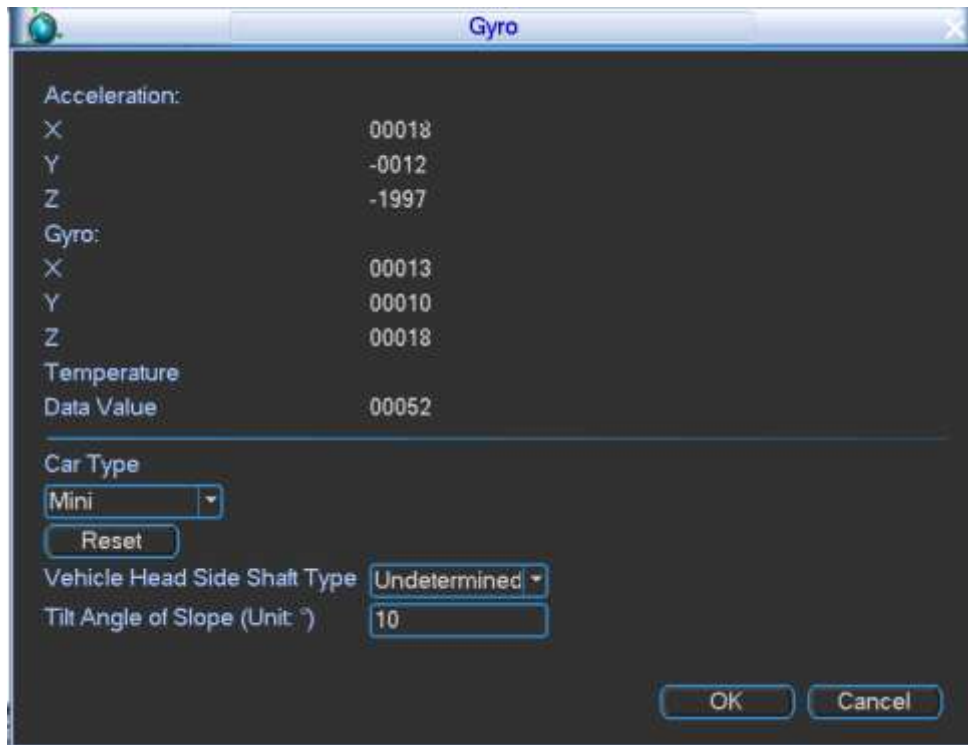

Figure 4-94
Step 1 From main menu->Info->Event->Gyo, the interface is shown as below. See Figure 4-94.